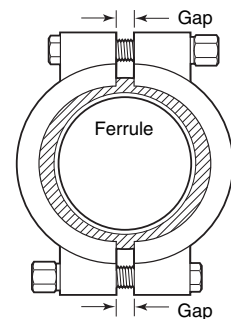

Fig. 1: End View
4. Install a high-pressure two-bolt clamp (AJC13HP) and finger-tighten both bolts (see Fig. 1).